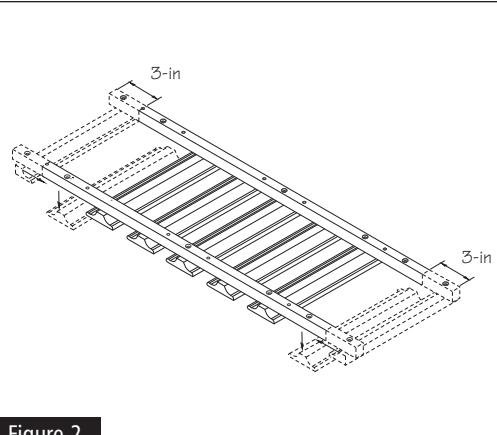

Figure 2
- 1 Place Stem Glass Holder unit on flat surface with the mounting strips facing up. Please note that the unit has a left (4-holes) and a right (5-holes). Using the screwdriver, remove the first two (2) rails on the left and the right, and replace the first (smaller) rail where the second rails were. With Pencil, mark each end of both mounting strips. See Figure 2.